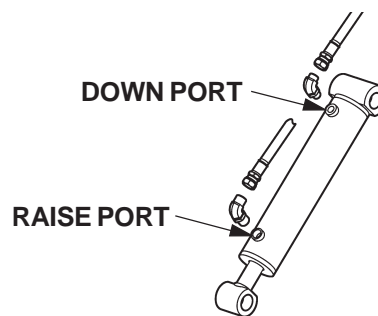

FIG. 60-3
3. Check the Hydraulic Cylinder. With the Platform on the ground, remove the hydraulic line from the Down Port of the Cylinder (**FIG. 60-3**). Raise the Platform even with the bed. Allow pump motor to run two seconds more while you watch for hydraulic fluid at the Down Port. A few drops of hydraulic fluid escaping the Down Port is normal; however, if it streams from the Down Port, Piston Seals are worn. Replace Seals.